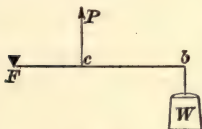

FIG. 1.
1. A **lever** is a bar capable of being turned about a pivot, or point, as in Figs. 1, 2, and 3.
1. The lever of a safety valve is of the form shown in Fig. 1, where the force is applied at a point between the fulcrum and the weight lifted. If the distance from the fulcrum to the valve is $5\frac{1}{2}$ inches and from the fulcrum to the weight is 42 inches, what total force is necessary to raise the valve, the weight being 78 pounds and the weight of valve and lever being neglected? Ans. 595.64 lb.